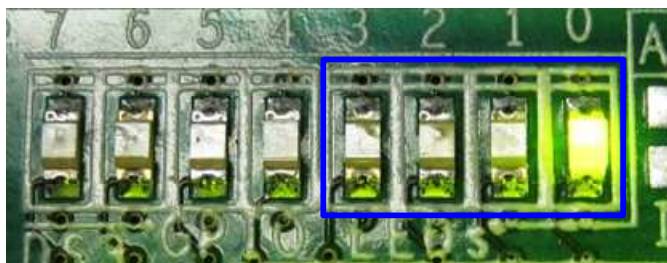

Figure 2-8 LED status after program configuration file and PCIe initialization complete
10) After programming completely, LED[0] and LED[1] are ON during PCIe initialization process. Then, LED[1] is OFF to show that PCIe completes initialization process and test system is ready to receive command from user. Main menu and PCIe speed are displayed on the console, as shown in Figure 2-8.